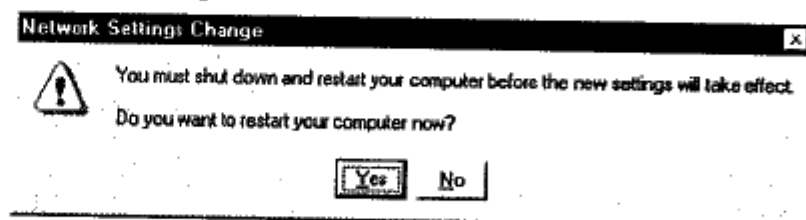

Figure 3-31
11. Click "Apply" and then "OK" to bring out the "Network Settings Change" window as shown in Figure 3-31.